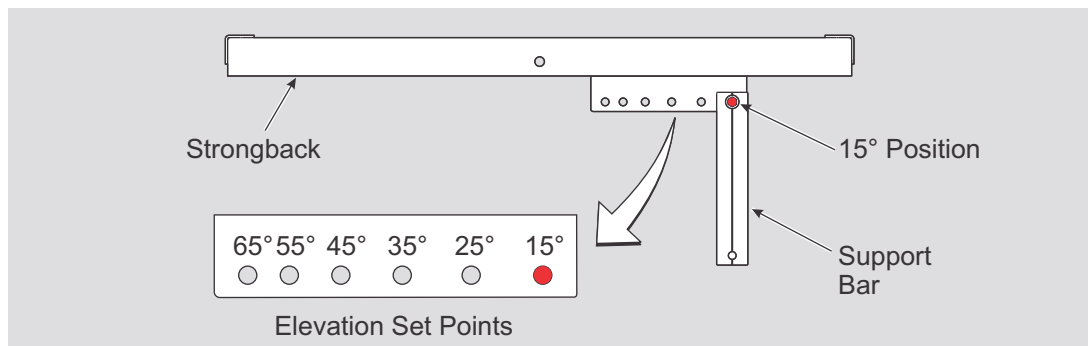

Figure 2-1: Positioning Support Bar
- A. Remove the Support Bar from the Strongback and re-install in the 15° elevation set point. Secure with the 3/8" hardware and finger tighten. (See Figure 2-1)